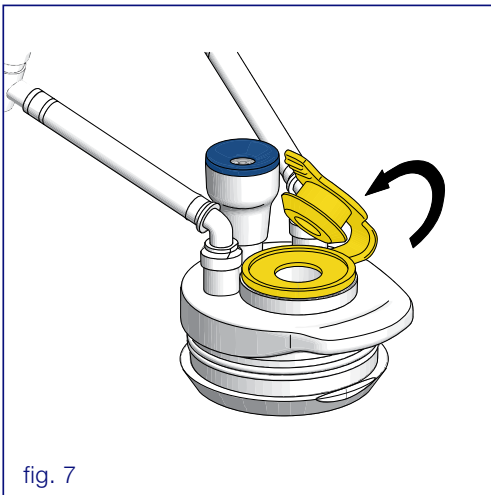

fig. 7
- A 5 mm instrument can be inserted through the yellow valve using the reducer (fig. 7).